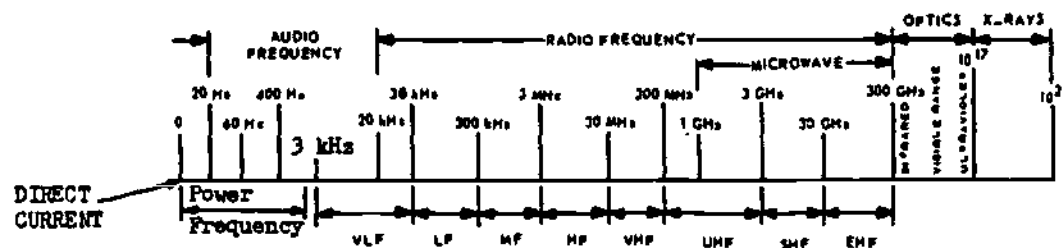

Figure 1-7. Frequency Spectrum
are seen as the colors - violet, blue, green, yellow, orange, and red. The frequencies immediately above the visible spectrum are called ultraviolet and the frequencies immediately below the visible spectrum are called infrared. Since all visible rays exist between the ultraviolet and infrared frequencies, we refer to the visible light frequencies as a group. That is, they differ from other frequencies in a special way. We find other frequencies arranged into groups in a similar manner. You have no doubt heard of x-rays, cosmic rays, alpha rays, beta rays, gamma rays, and microwaves. Figure 1-7 shows the range of frequencies making up the frequency spectrum.
1-36. Refer to figure 1-7 to see how the frequencies used in electronics are grouped. Notice that **DIRECT CURRENT (DC)** has zero frequency (no alternations). Frequencies
1-39. **RADIO FREQUENCIES.** The frequencies between 20 kHz and 300 GHz are classified as radio frequencies. Since different frequencies within this wide range produce different effects in transmission, they are subdivided into bands for convenience of study and reference. The bottom portion of figure 1-7 shows how the frequency spectrum is divided into bands.